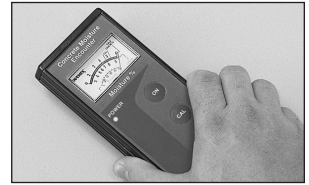
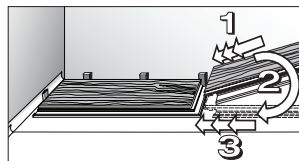

Figure 1
Figure 3
- **Tramex Concrete Moisture Encounter Meter** (Figure 1): Moisture readings should not exceed 4.5 on the upper scale. (Figure 3 shows an unacceptable reading of over 4.5) Concrete Moisture Meters give qualitative reading results-not quantitative ones. These results are a quick way to determine if further testing is required.
- Install second and subsequent full pieces in the first row by aligning short ends of boards and locking into place (Fig. 3).
- Use spacers along all sides that butt up against walls to maintain a 1/4" (6.35 mm) expansion zone (Figs. 3 & 4).